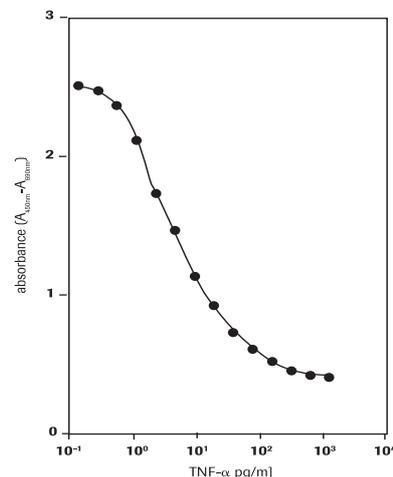

Fig. 2: Determination of the cytotoxic activity of human TNF- α on WEHI-164 cells.
- The assessment of growth inhibitory antibodies and physiological mediators (see figure 2).
Procedure for determination of the cytotoxic effect of human tumor necrosis factor- α (TNF- α) on the mouse fibrosarcoma cell line WEHI-164 (see figure 2).
- 6 Measure the absorbance of the samples against a background control as blank using a microplate (ELISA) reader. The wavelength for measuring the absorbance of the formazan product is between 420 – 480 nm (max. absorption at about 440 nm) according to the filters available for the ELISA reader (see figure 2). The reference wavelength should be more than 600 nm.